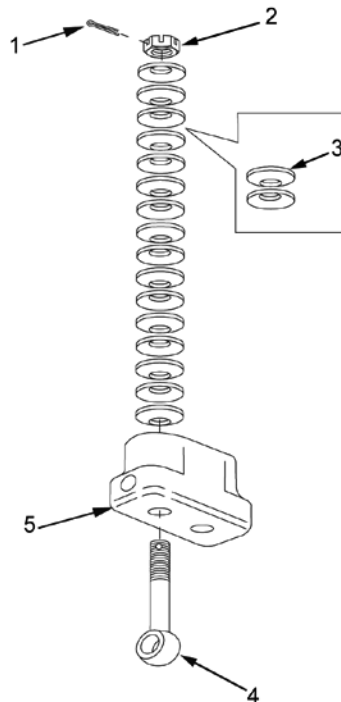

Figure 13. Assembly of Spring Washer Assembly.
23. Count number of turns required to remove slotted nut (Figure 13, Item 2) from eyebolt (Figure 13, Item 4). Subtract 2.25 turns, record value.
24. Remove spring tension washers (Figure 13, Item 3) from spring housing (Figure 13, Item 5).
25. Reinstall spring tension washers (Figure 13, Item 3), ensuring that they are installed concave surface to concave surface.
26. Install slotted nut (Figure 13, Item 2) on eyebolt (Figure 13, Item 4) using recorded number of turns recorded in step 23.
27. Install cotter pin (Figure 13, Item 1).
28. Repeat steps 23 through 27 for installing spring tension washers (Figure 13, Item 3) on second eyebolt (Figure 13, Item 4).